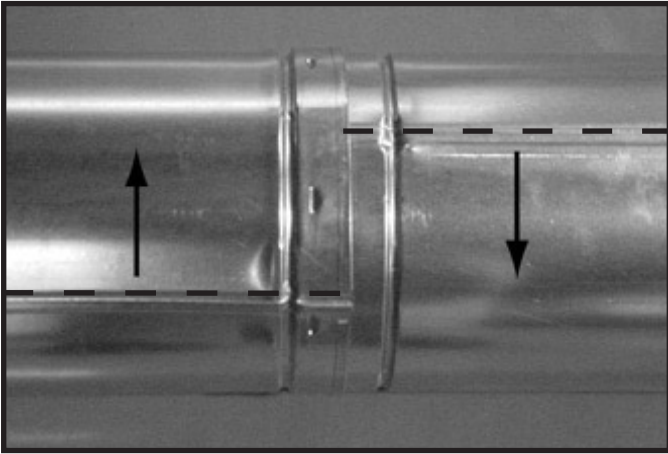

Figure 7.9 Rotate Seams for Disassembly
- Rotate either section (see Figure 7.9) so the seams on both pipe sections are aligned as shown in Figure 7.10